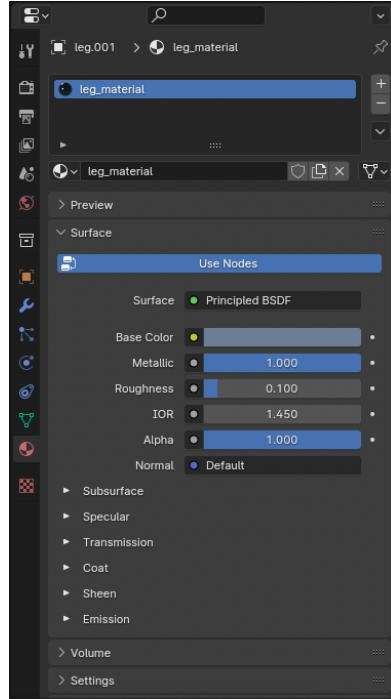

Figure 1.12: Material properties.
18. Add material to the leg using the *Properties* editor (see Fig. 1.12). Select the material icon, add default material (Principled BSDF). Then, set the *Base Color* to RGB=[0.15,0.21,0.3], *Matalic* to 1, and *Roughness* to 0.1. Rename this material to *leg-material*.